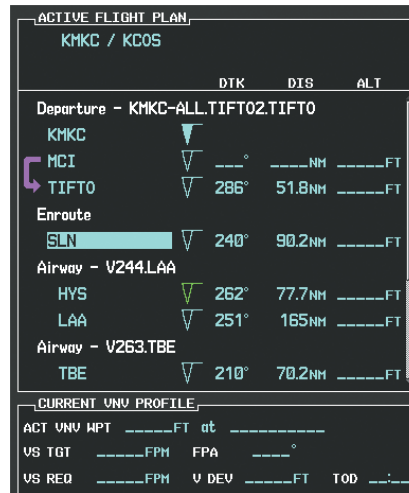

Figure 5-115 Begin Adding V4 to the Flight Plan
b) The desired entry point for V4 (TOP) must be entered. Turn the large **FMS** Knob to highlight the desired flight plan insertion point (SLN) as shown in Figure 5-115. When the V4 entry point (TOP) is inserted, it is placed immediately above the highlighted waypoint (SLN).